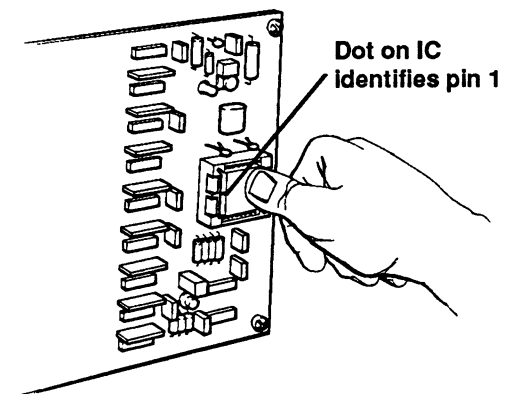

Figure 3 New Firmware IC Installation
- c. Install new firmware IC by referring to Fig. 3.